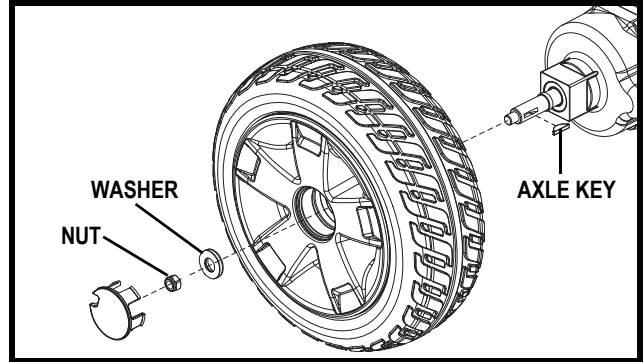

Figure 26. Solid Tire Wheel Removal
3. Remove the drive wheel nut and washer from the axle. See figure 26.